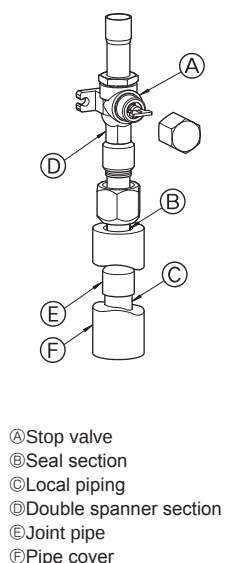

Fig. 4-3
- ③ Use the following procedure for connecting the gas-side piping. (Fig. 4-3) (SHW230)
- 1 Braze the ⑤ Joint pipe provided to the outdoor unit using locally procured brazing materials and ⑥ Local piping without oxygen.
- 2 Connect the ⑤ Joint pipe to the gas-side Stop valve.